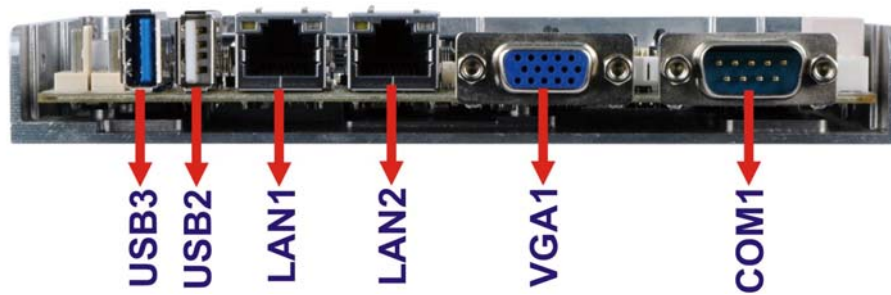
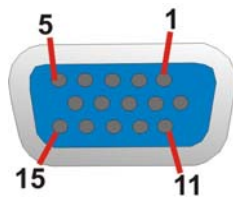

Figure 3-25: External Peripheral Interface Connector
Figure 3-28: VGA Connector
Figure 3-25 shows the WAFAER-BT-i1 external peripheral interface connector (EPIC) panel. The EPIC panel consists of the following:
CN Location:	See Figure 3-25
- CN Location:** See **Figure 3-25**
WAFER-BT-i1**3.3.3 RS-232 Serial Port Connector****CN Label:** COM1**CN Type:** DB-9 Male**CN Location:** See **Figure 3-25****CN Pinouts:** See **Figure 3-27** and **Table 3-27**
Table 3-27: RS-232 Serial Port Connector Pinouts**3.3.4 VGA Connector****CN Label:** VGA1**CN Type:** 15-pin female (VGA)**CN Location:** See **Figure 3-25****CN Pinouts:** See **Figure 3-28** and **Table 3-28**